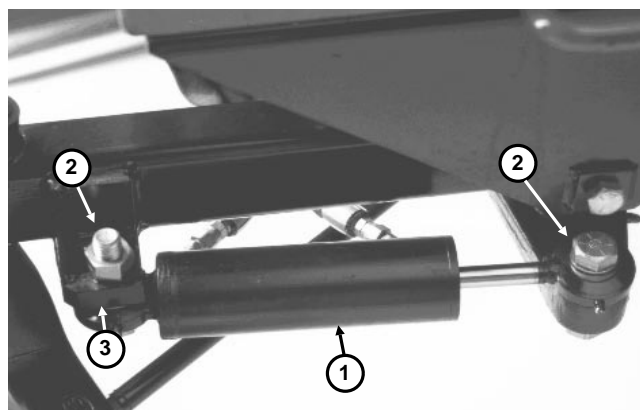

Figure 20
3. Remove the lock nut and cap screw securing the rod end of the cylinder to the steering pivot (Fig. 20).